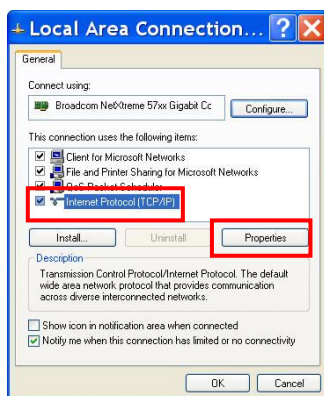

Figure 66: Local Area Connection Window
4. Click on *Internet Protocol (TCP/IP)*. See Figure 66.